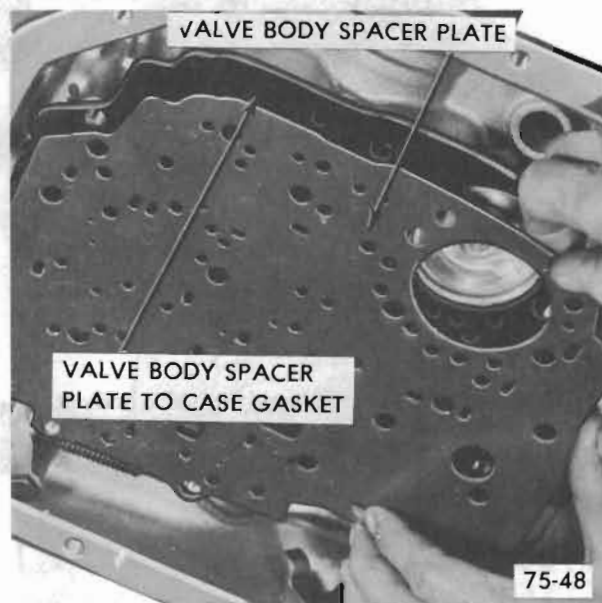

Figure 75-65
5. Remove valve body spacer plate and valve body spacer plate to case gasket. See Figure 75-65.
**NOTE:** Be sure to note position of the four (4) plastic check balls so they are assembled correctly.